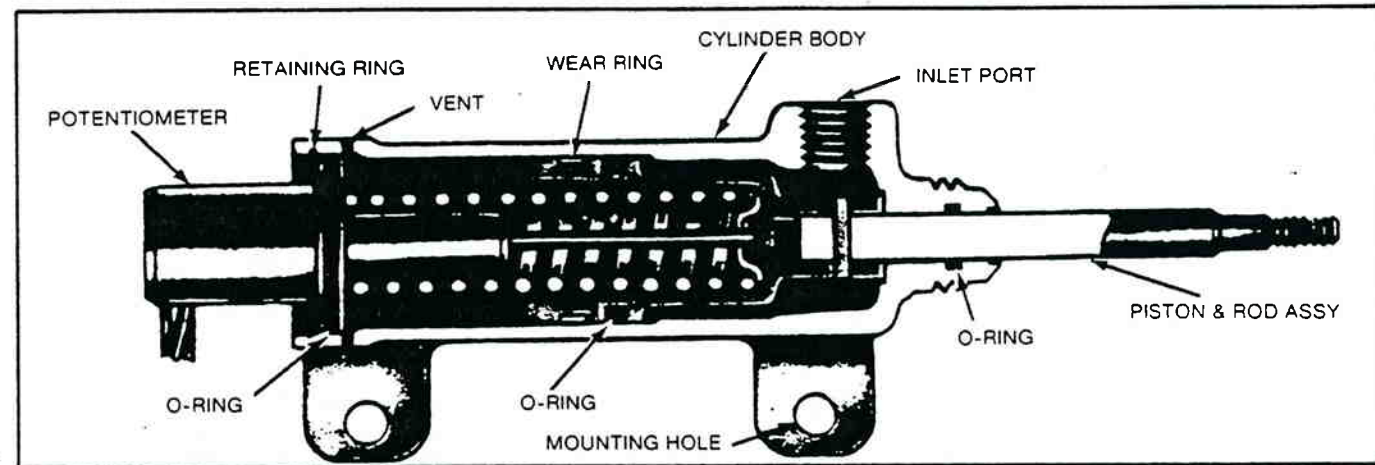

Figure 9-16. Air Cylinder — Sectional.
2. Remove accumulated grime from the outside of the air cylinder with particular attention to the three body vents (figure 9-16).
Refer to figures 9-16 and 9-17.
Connect an adjustable air regulator and gauge between an air source and the inlet port of the air cylinder (figure 9-16). Raise and lower the air pressure between 0 and 60 psi (414 kPa) several times, noting that the piston rod (1) extends and retracts smoothly. With 60 (414 kPa) psi applied to the air cylinder, apply a soap solution around the piston rod (1) and the body vents (9). Total leakage should not exceed a one-inch soap bubble in less than five seconds.
4. Unscrew the throttle cable coupling nut on the end of the air cylinder throttle cylinder body (8 in figure 9-16).
5. Unscrew the cable nut at the end of the piston and rod assembly (1).
7. Disconnect the electrical connector for the potentiometer assembly (7).